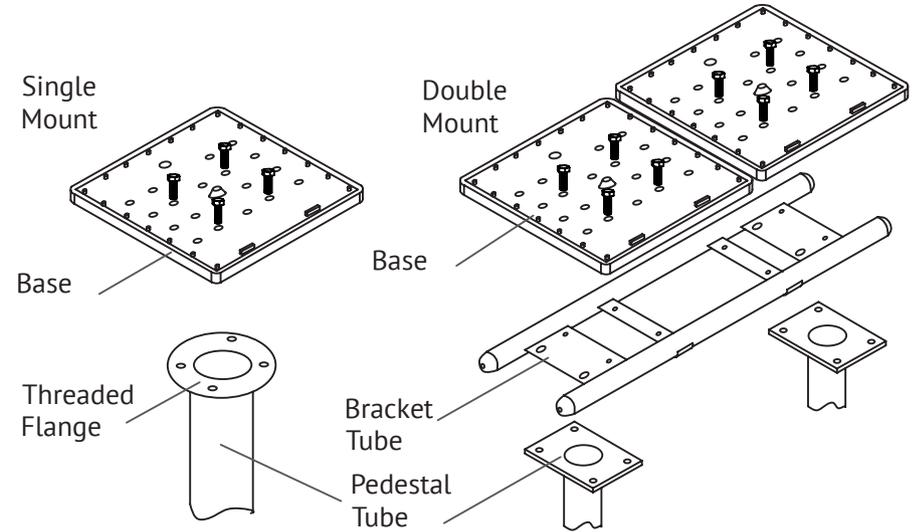

Figure 5.
e. Align the Front and rear holes in Base as best as possible to the outer holes in the Large Double Bracket. (Fig. 5). **NOTE: THE FRONT OF BASE HAS A NOTCH FOR THE PRODUCT CHUTE.**
- e. Align the holes within the vendor's Base to the large holes within the Threaded Flange (Fig. 5).
- b. Place the Large Double Bracket to the top. Make sure to align the large holes on the threaded Flange with the Double Bracket. (Fig. 5).
- c. insert bolts as shown. (Fig. 5).